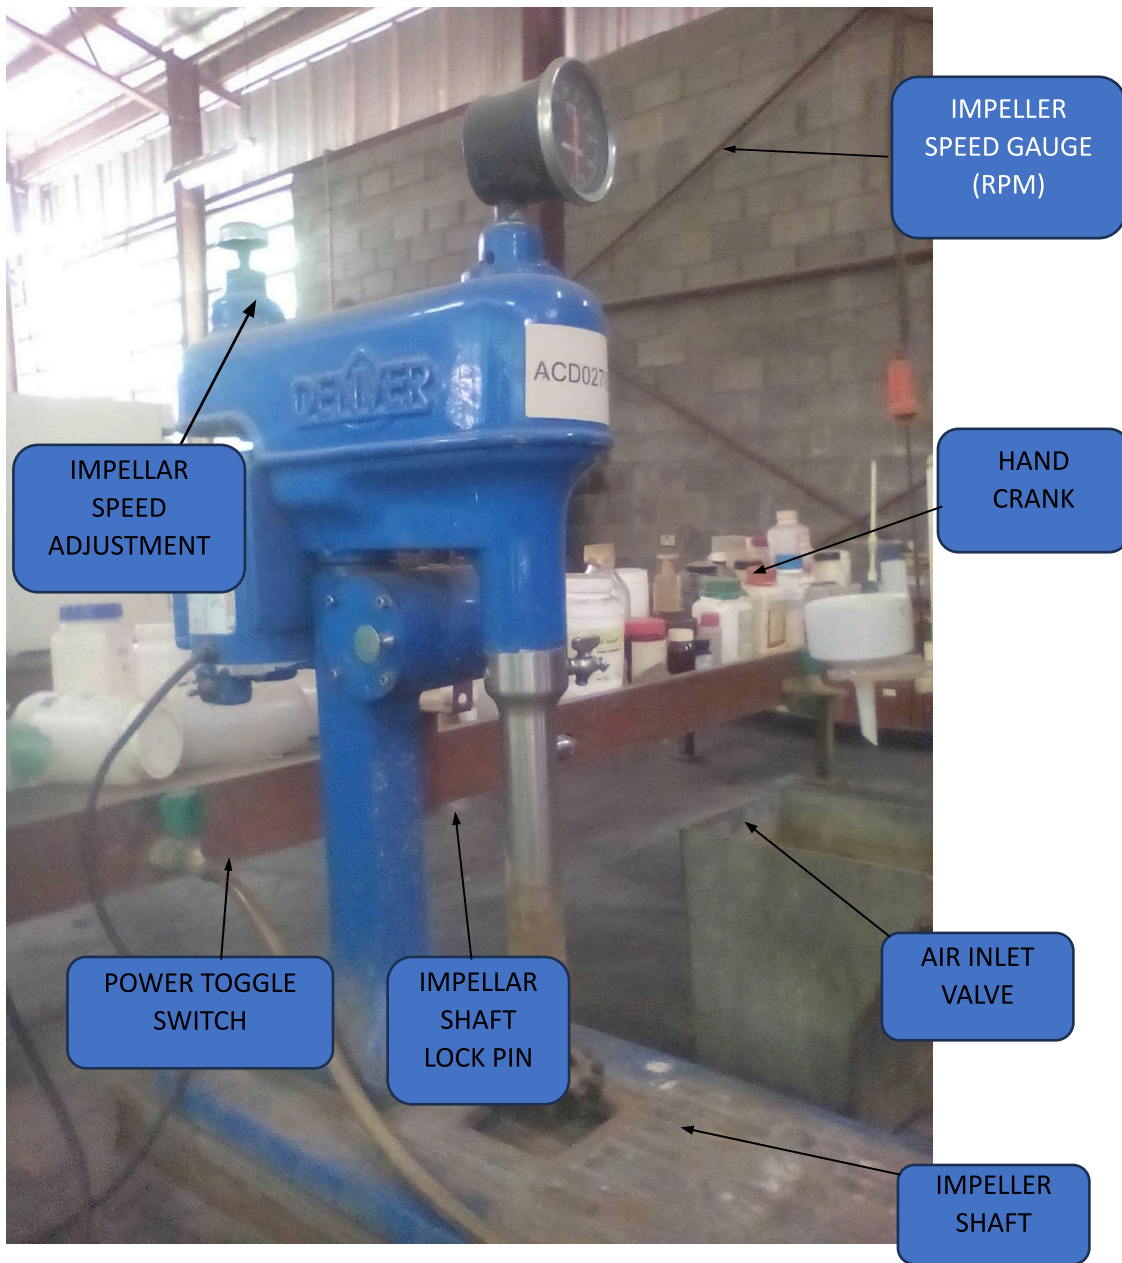

FIGURE. 1
5. Pull locking pin out with left hand and with the right hand, turn hand crank counter clockwise to raise the to raise the impeller shaft to create sufficient clearance to fit an appropriate size flotation cell in the cell slot. Release locking pin to lock the shaft in the raised position. (refer to fig.1)
6. Place the required flotation cell into the cell slot below the impeller shaft as shown (fig.1)
9. Switch ON the power to the flotation machine with the toggle switch located at the base of the motor (Fig.1)
13. Introduce air into the agitated pulp/slurry by turning the air valve (fig.1) half clockwise